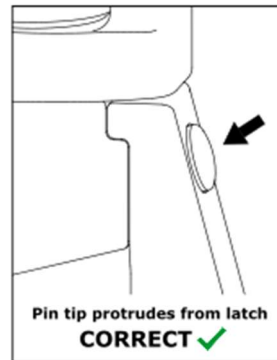
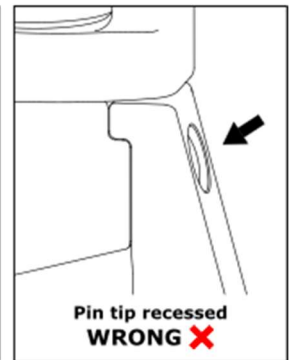

Figure 2a
Figure 2b
- The hook latch must be closed and locked before loading. The plunger pin tip must stick out of latch. (Figure 2a) Never load a hook with a recessed plunger pin. (Figure 2b)